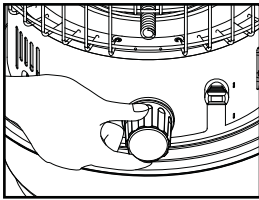

Fig. 9
- Turn the wick adjuster knob clockwise until the wick has been raised to its maximum height. (Fig. 9)